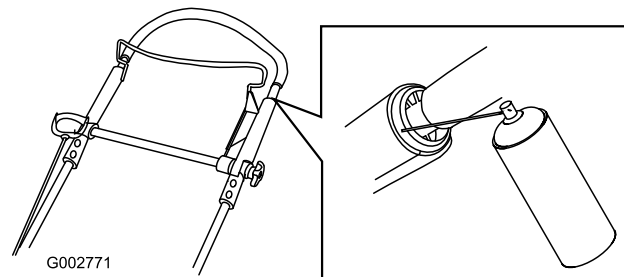

Figure 30
1. Spray the outer plastic end of the inner handle (Figure 30).